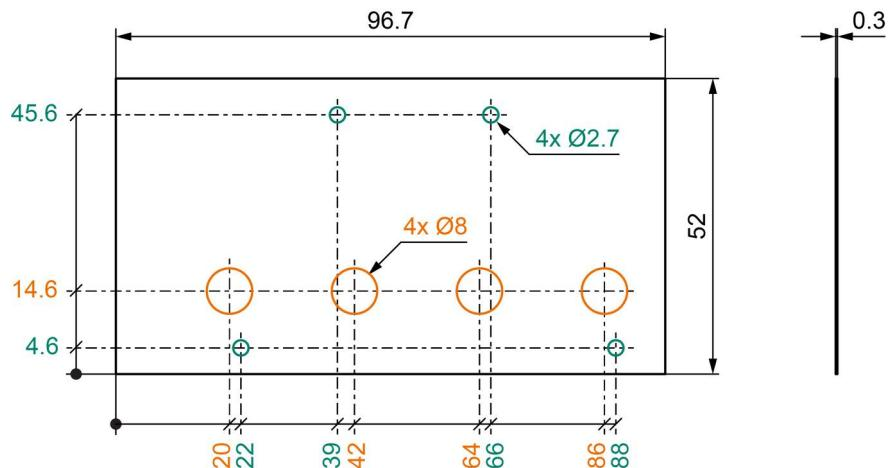
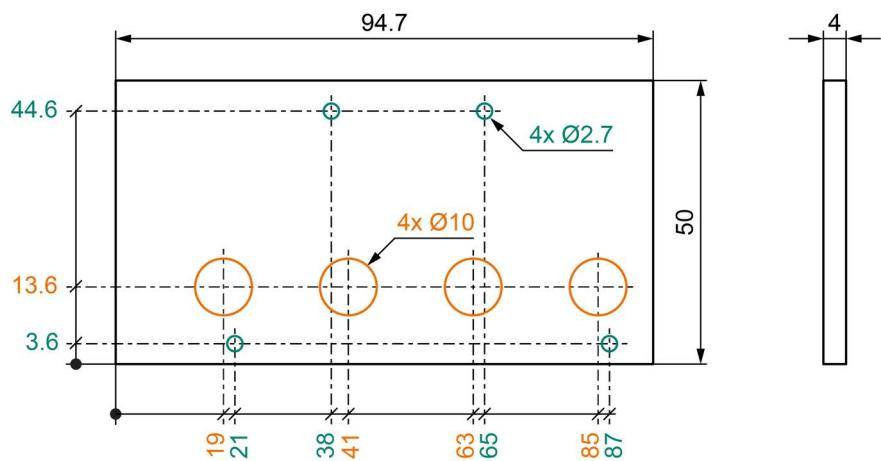

Figure 3-6      Silicone pad
Figure 3-7      Cooling plate
A good way to efficiently dissipate the heat from the controller is to attach a heat sink—which composes a cooling plate equipped with an electrical insulation. Check below →Table 3-8 for quantities and types as well as →Figure 3-6 and →Figure 3-7 for dimensions of the items needed to build a well capable heat sink.
- The dimensions of the silicone pad and cooling plate must be as to →Figure 3-6 and →Figure 3-7.